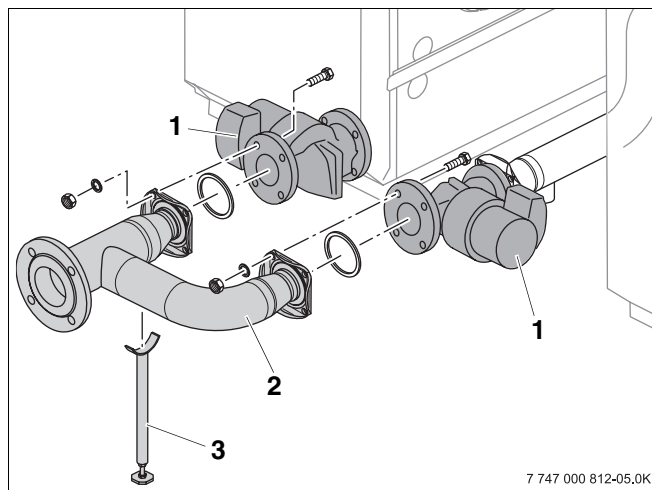

Fig. 12 Fitting return connecting piece
- Fasten return connecting piece (Fig. 12, **Item 2**) and gasket to pump (Fig. 12, **Item 1**) using 4 bolts and nuts as shown in Fig. 12.
- Position brace (Fig. 12, **Item 3**) under the return connecting piece and adjust its height until the return pipework is stress-free.